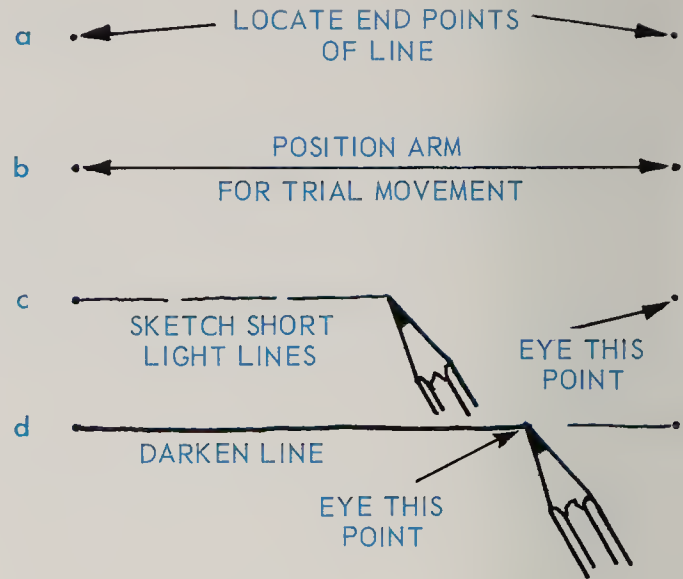

Fig. 4-5. Steps in sketching horizontal lines.
1. Locate and mark the end point of line to be sketched, Fig. 4-5(a).
2. Position the arm by making trial movements from left to right (left-handers, from right to left) without marking the paper, Fig. 4-5(b).
3. Sketch short, light lines between the points, Fig. 4-5(c). Keep your eye on the point where the line is to end.
4. Darken the line to form one continuous line of uniform weight. The eye should lead the pencil along the lightly sketched line, Fig. 4-5(d).